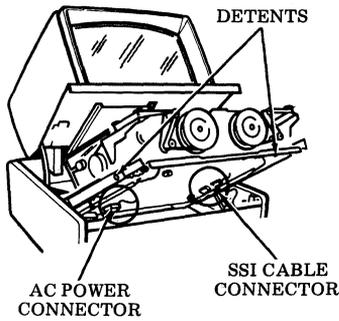

Fig. 4
- (e) Disconnect ac power connector (Fig. 4).
- (f) Disconnect SSI cable connector (Fig. 4).
- (g) Grasp printer securely from underside; depress detents (Fig. 4) and slide printer out.